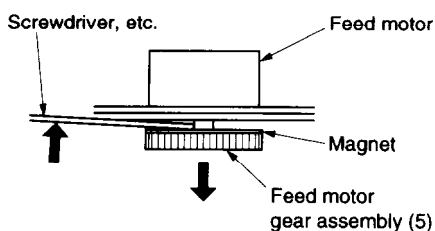

Fig. 1-3-12
- Remove the feed motor gear assembly (5) using screwdriver, etc. with care taken not to break the magnet. (Refer to Fig. 1-3-12.)
- Apply lightly the screwdriver, etc. end to the gear shaft and push upward, and pull out the feed motor gear assembly (5).